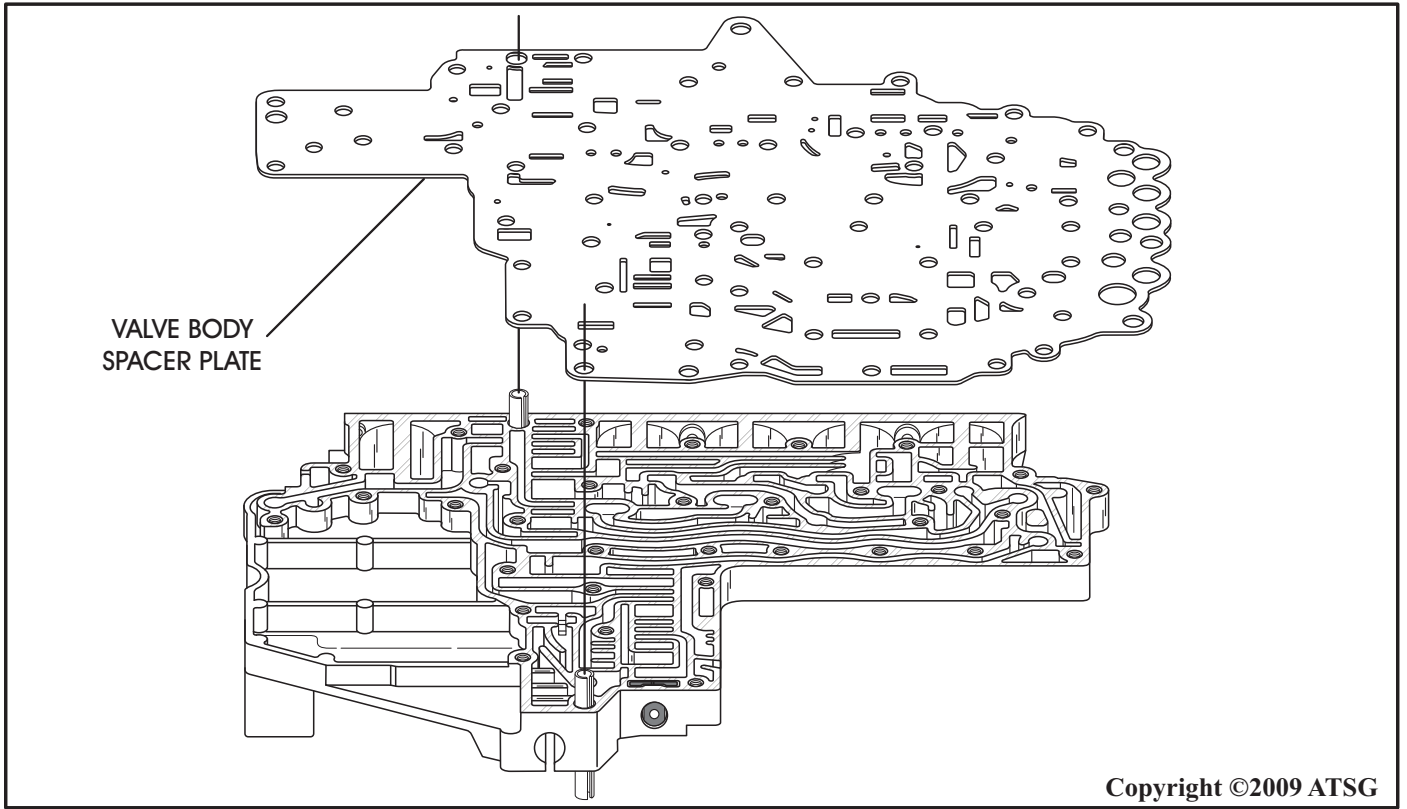

Figure 100
10. Install the valve body spacer plate over the locating dowels and onto the valve body as shown in Figure 100.